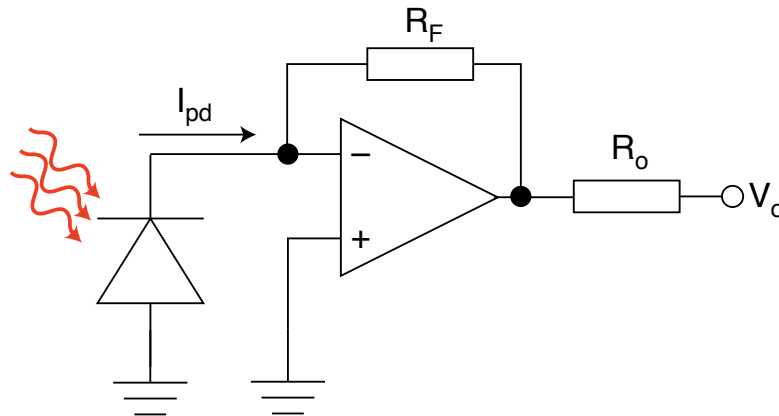

Figure 4.4.1
For a transimpedance amplifier, such as that shown in Figure 4.4.1, let's take $R_f = 10\ \text{M}\Omega$. What is the value of the ratio V_o/I_{pd} ? Ignore R_o .
- Set up a SPICE simulation of the transimpedance amplifier shown in Figure 4.4.1. Again use the same op amp as in the first simulation (Section 4.2.1).